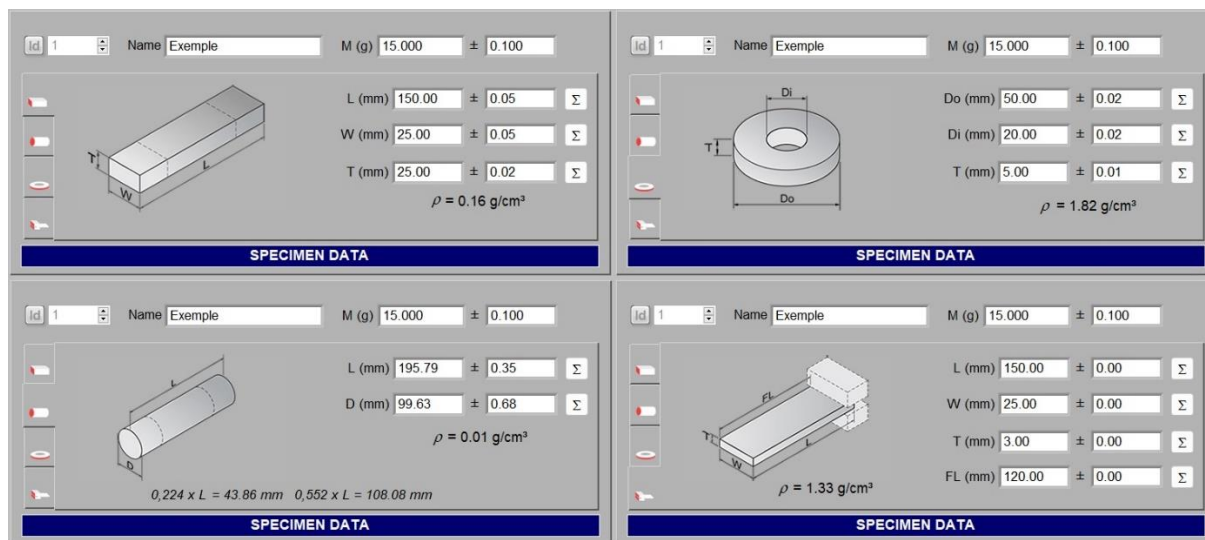

Figure 26 - Options for geometry and specimen data.
Step 01 - In the field "Specimen data": **SAMPLE DATA** choose the specimen's geometry: rectangular bar, cylinder, ring/disc or cantilever beam, as shown on Fig. 26 below.
Meaning of the parameters shown in Fig. 26:
After insert all dimensions, the software will automatically calculate the apparent density (ρ) and show the localization of the nodal lines for bars and cylinders (where the specimen should be placed over). Figure 26 shows where this information. Always check if the calculated apparent density is consistent with the material under test.